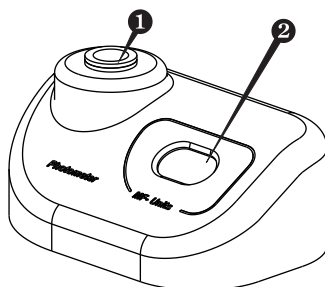

Fig.2 Front panel
- 3.4.3. Insert the tube with the standard solution, corresponding to the calibration point value, into the socket of Densitometer (fig.2/❸).
Insert the adapter into the tube socket (fig.2/❺), perform calibration.
- 4.3. The following indication may be shown on the display (fig.2/●):
- 4.4. Shake the tube with the solution (it is recommended to use a vortex mixer, e.g. Vortexer PV-1, for shaking) and insert it into the socket (fig.2/●). The McFarland value for the solution will be shown on the display (fig.2/●).